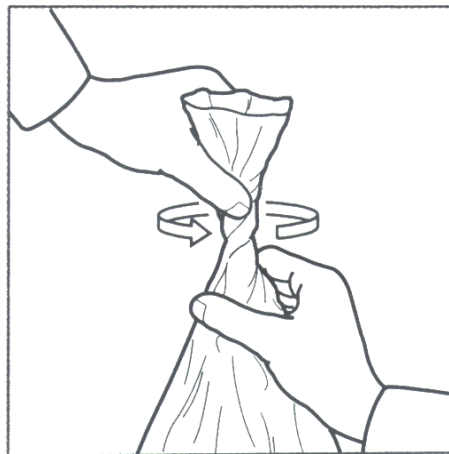

FIGURE 2
- 3) Take the neck of the bag and twist it. See Figure 2.